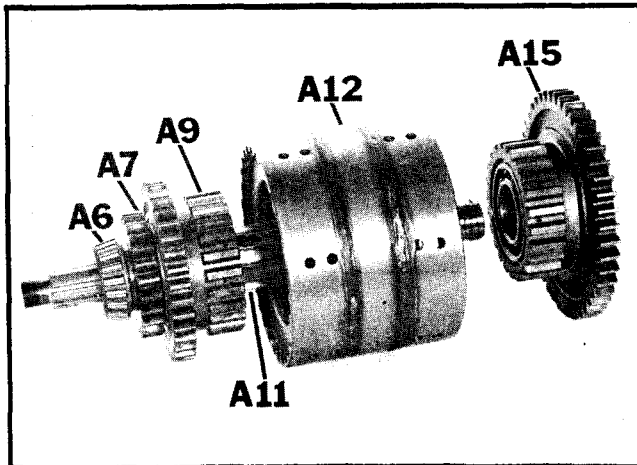

Figure 18
3. Press shaft (A-11) from clutch pak (A-12) freeing clutch gear (A-15) (Figure 18).
4. Press shaft (A-11) from remaining gears (A-7 and A-9) and bearing (A-6) (Figure 18).